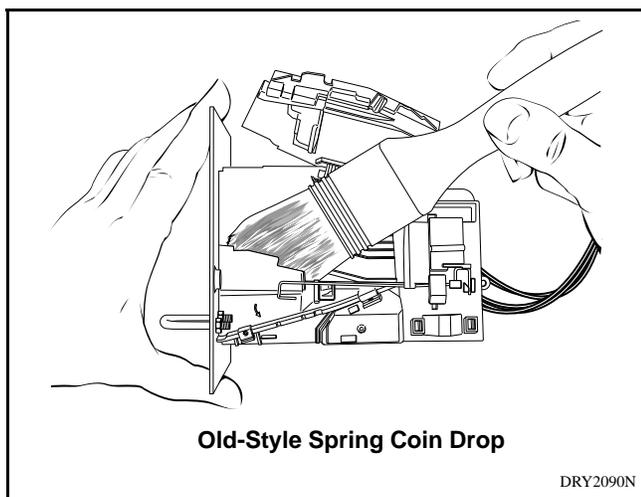

Figure 21
- d. Clean the coin path with a soft brush and wipe exposed surfaces with an alcohol moistened cloth. Refer to *Figure 21* or *Figure 22*.